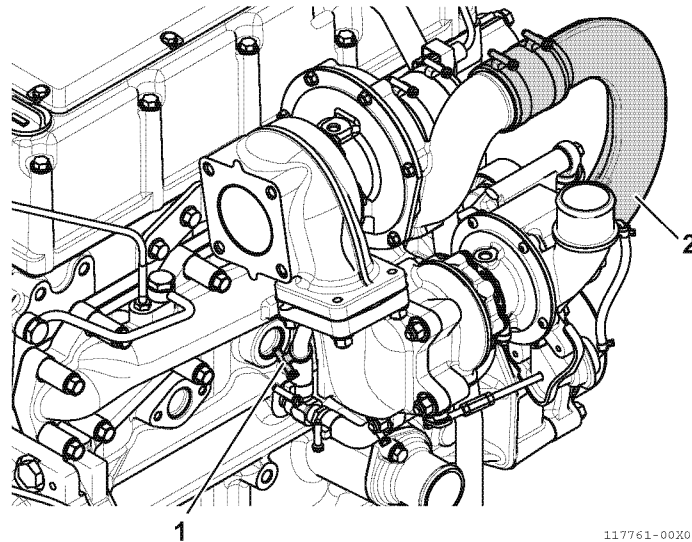

Fig.24-21
- 8 - Tighten the lubricating oil return hose bands (1, Fig.24-21) to the specified torque.
- 9 - Install the intake air duct joint (2, Fig.24-21) which connects the airflow path of the low-pressure stage turbocharger and high-pressure stage turbocharger.